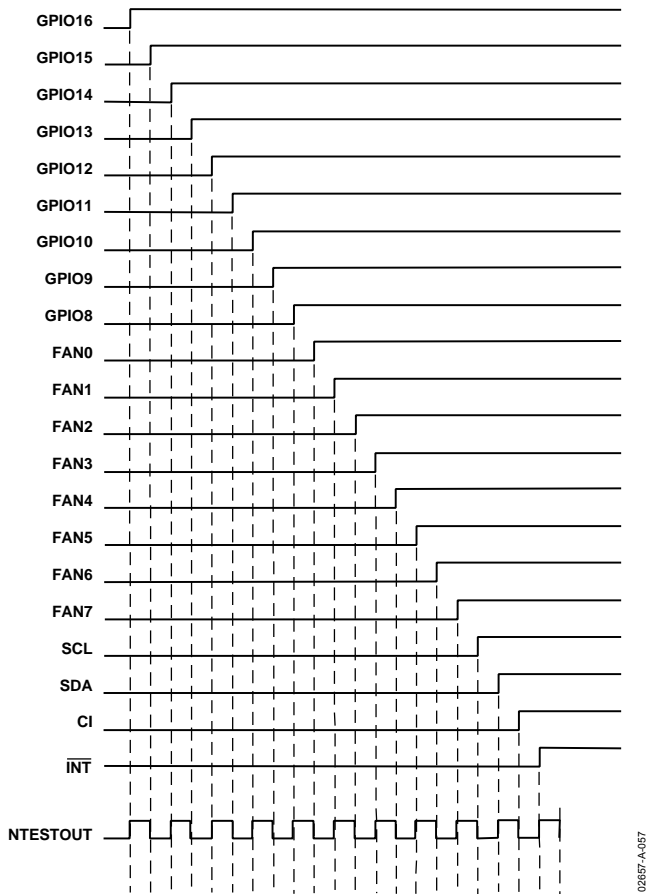

Figure 57. NAND Tree Test Taking Inputs High in Turn
1. Start with all inputs low and take them high in turn, starting with the input nearest to NTEST_OUT (GPIO16/ $\overline{\text{THERM}}$) and working back up the tree to the input furthest from NTEST_OUT ($\overline{\text{INT}}$). This should give the characteristic output pattern shown in Figure 57, with NTEST_OUT toggling each time an input is taken high.